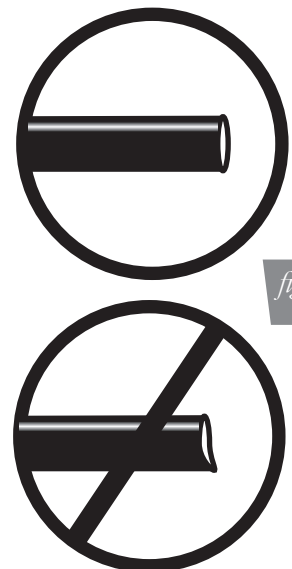

fig. 28
- a. Check the air line connection by deflating the spring and removing the line by pulling the collar against the fitting and pulling firmly on the air line. Trim 1" off the end of the air line. Be sure the cut is clean and square (see fig. 28). Reinsert the air line into the push-to-connect fitting.
2. If the preceding steps have not resolved the problem, call Air Lift customer service at (800) 248-0892.